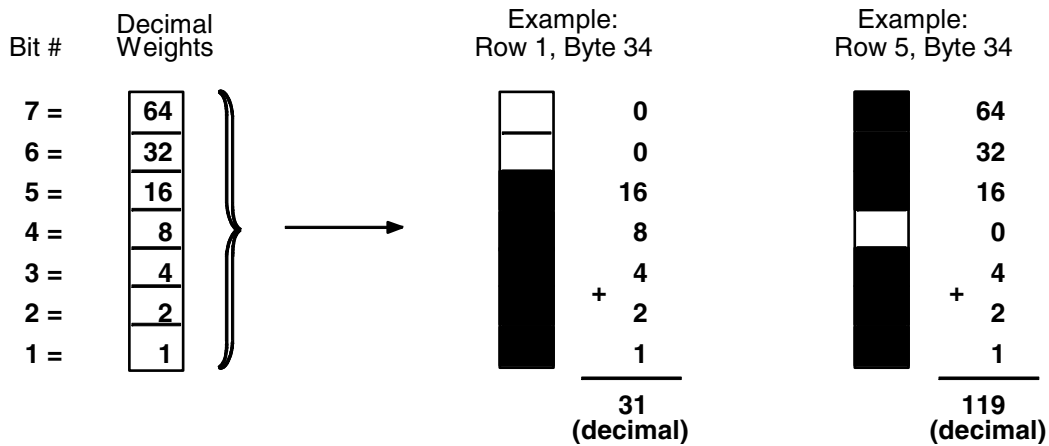

Figure 37. Logo Design
- Define the logo, and return to the form to add the logo data. The HandCraft logo is a hand with a sailboat as plotted in Figure 37. (Use the Logo Grid in Appendix C to plot the dot positions for your logo the same way.) Drawing the logo out on a grid permits the dot positions for each vertical data byte in the logo to be computed and input as data in the Plotting Graphics (Q) command. Notice that where dot positions are *not* computed, the boat image in the hand emerges. The complete program for the HandCraft logo starts on page 315.
For example, the values in Table 68 have been assigned to bits 1 through 7 for the first 0.1-inch row of data bytes (1 through 42) shown in Figure 37. Each byte was first calculated in decimal and then converted to the equivalent hexadecimal value (using the ASCII chart in Appendix A). The hexadecimal values are the data for the program shown on page 315.
Following this scheme, all hex data bytes for an entire 0.1 inch row (seven vertical dot rows) of the logo can be calculated. Subsequent rows are calculated similarly. To print each 0.1-inch row of the logo, the print position is shifted down 0.1 inch using the Justification command, and then the same vertical data byte columns are used. (See the second example in Figure 37.)
Following this scheme, all hex data bytes for an entire 0.1 inch row (seven vertical dot rows) of the logo can be calculated. Subsequent rows are calculated similarly. To print each 0.1-inch row of the logo, the print position is shifted down 0.1 inch using the Justification command, and then same vertical data byte columns are used. (See the second example in Figure 37 on page 314.)